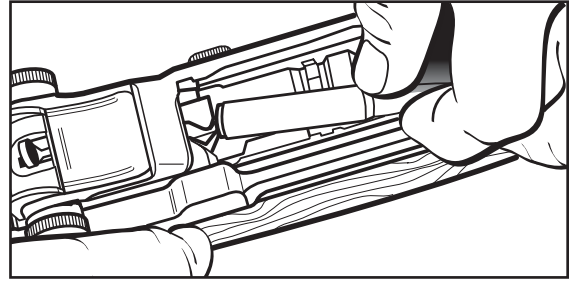

Fig. 23-1
3. Place the rifle butt against your hip or thigh or support the butt of the stock on a table or bench. Place your right hand along the receiver and using your right thumb over the operating rod handle pull the bolt slowly to the rear. While doing this place your left hand over the receiver to catch the cartridge as it is removed from the chamber and ejected. **(See Figure 23-1).**